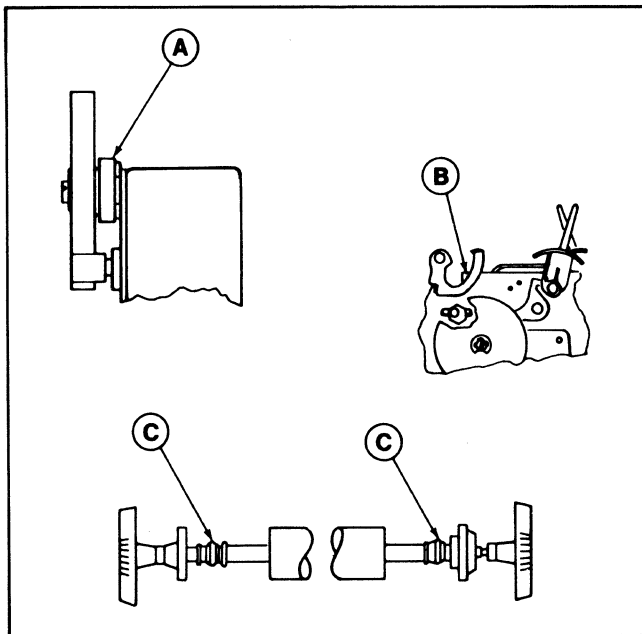

Figure 3-3. Platen System Lubrication Points
3.2.3.3 PLATEN SYSTEM (Figure 3-3)